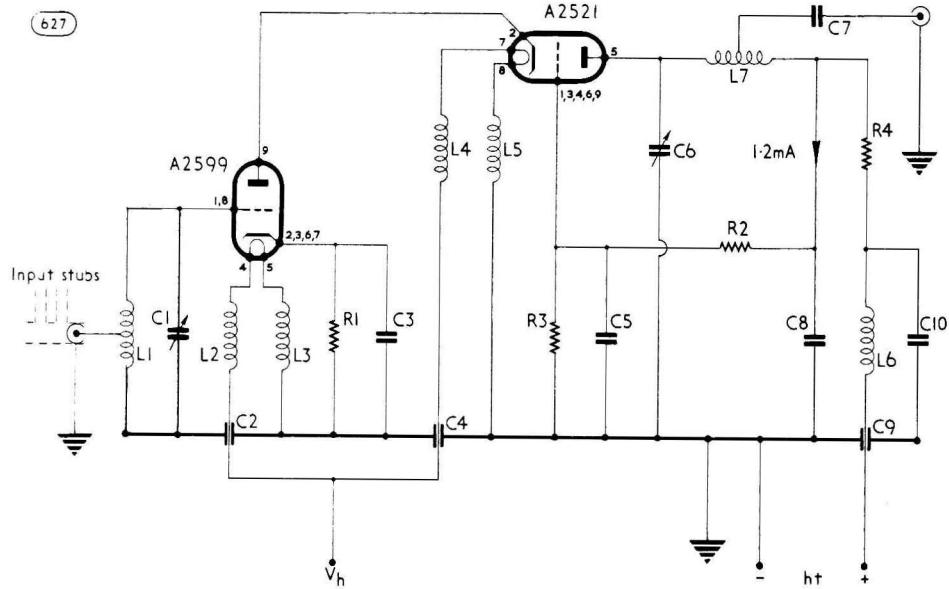

Fig. 2. Circuit of 200Mc/s cascode amplifier.
**COMPONENT VALUES FOR FIGS. 2 AND 3**